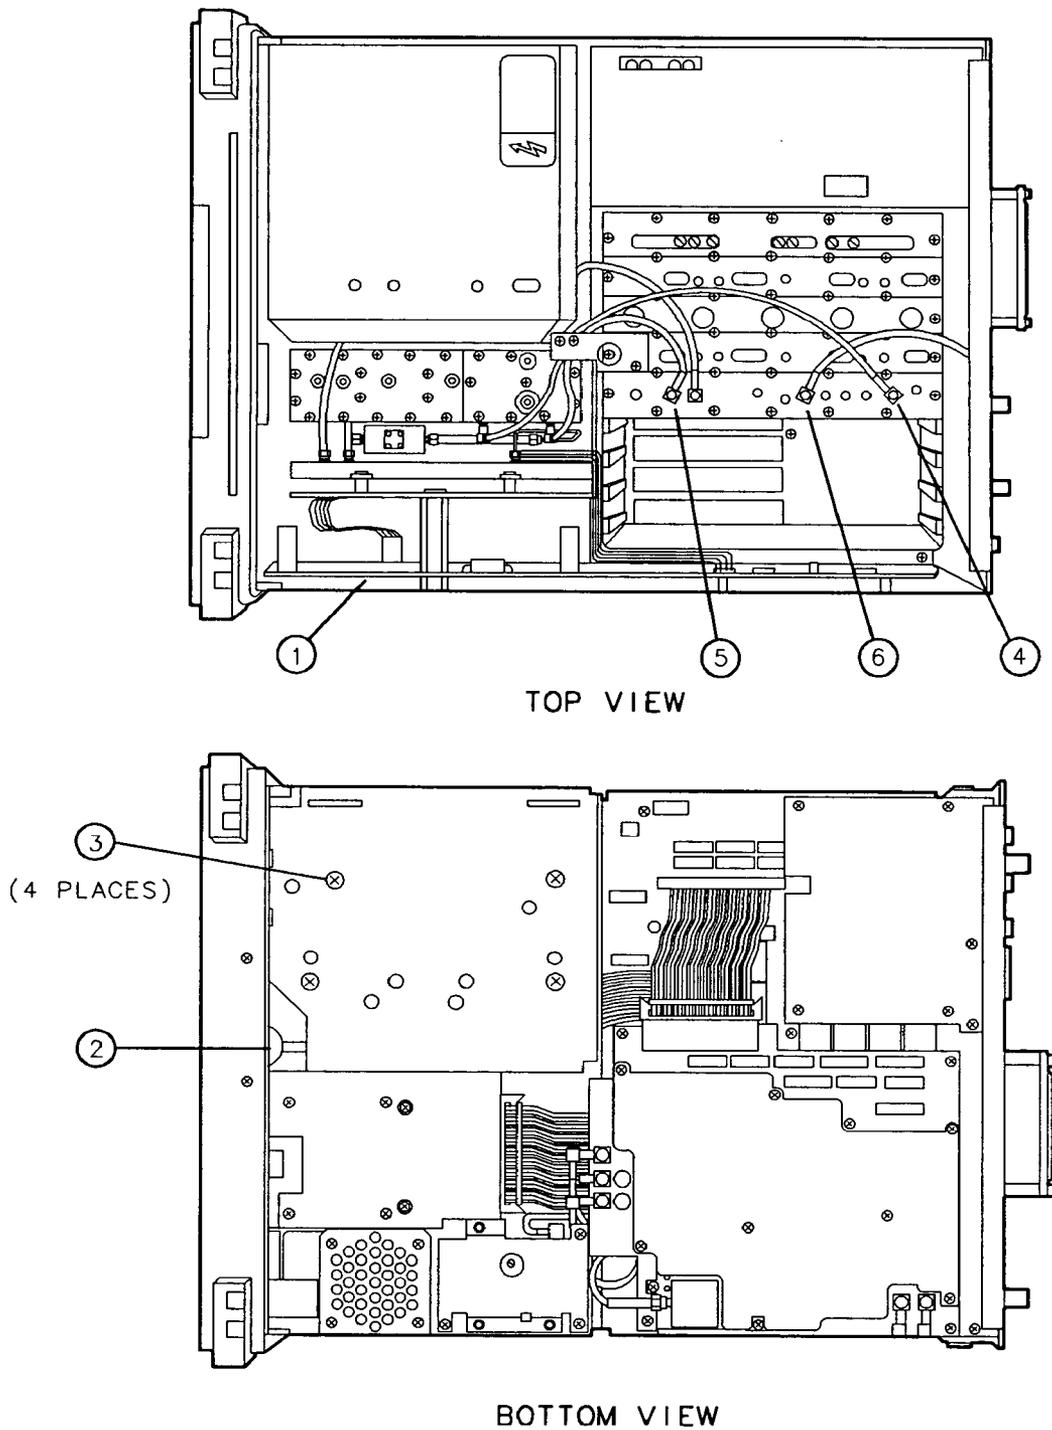

Figure 3-5. Front-End Assembly Replacement
2. Remove the A7 Analog Interface Board Assembly (1) by disconnecting W12 and W13. See Figure 3-5.
4. Disconnect the W10 semirigid cable (2) from the INPUT 50 Ω (*Option 001*: INPUT 75 Ω).
5. Remove the four screws (3) securing the front-end assembly to the chassis.
6. Disconnect the W9 cable (4) from A9J4, the 321.4 MHz INPUT.
7. Disconnect the W8 cable (5) from A9J5, the 600 MHz OUT.
8. Disconnect the W21 cable (6) from A9J3, the CNTR LOCK OUT.